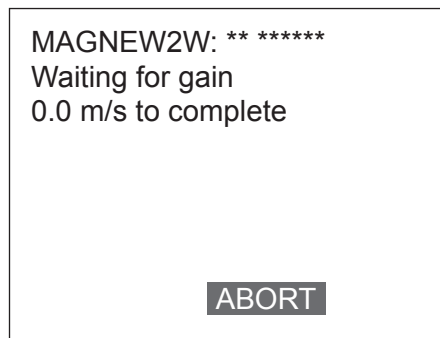

Figure 7-51
- 6. Figure 7-51 will then appear. Please wait until the adjustment completes.